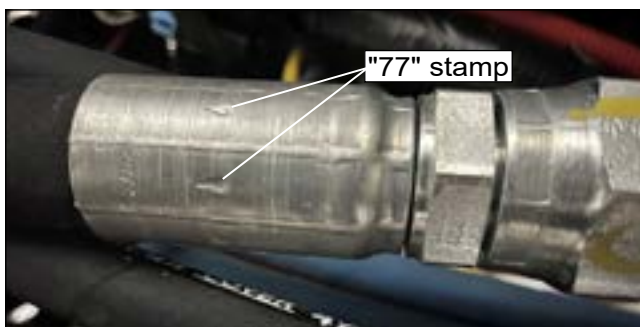

Figure 3 — Stamped Fitting
- If both fittings are stamped "77" on the crimped portion and dimension "A" is 3.16", no further inspection is required (refer to Figures 3 and 4). Proceed to step 5.
- If one or both fittings are stamped "43" on the crimped portion and dimension "A" is 2.68", proceed to step 6 (refer to Figures 3 and 4).